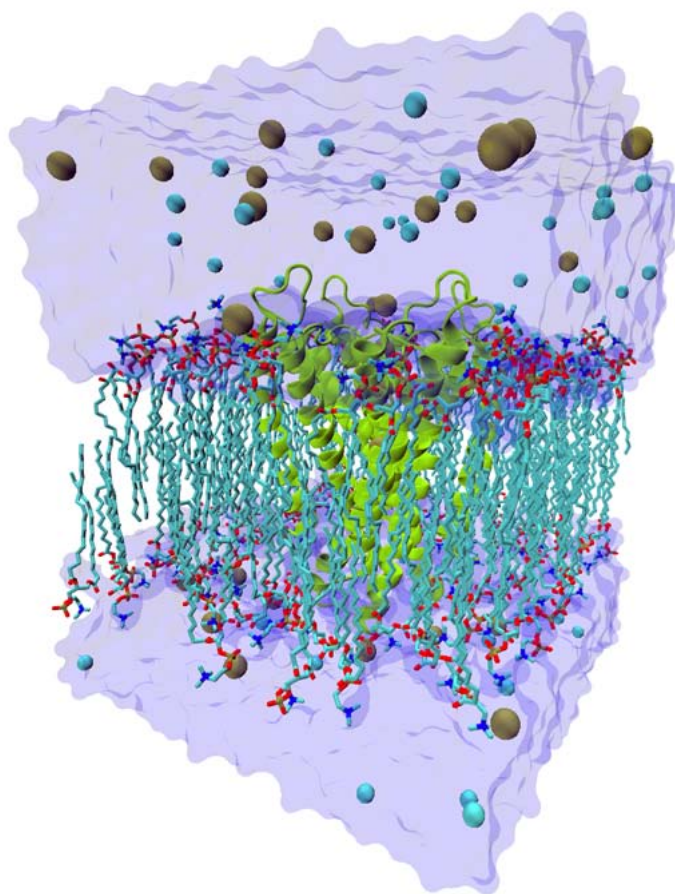

Figure 10: Final simulation system including the KcsA channel, a POPC membrane, water, and ions.
- 8 Load the output files of autoionize (kcsa\_popcwi.psf and kcsa\_popcwi.pdb) into VMD and check that the ions are really there and that the system is neutral (Fig. 10).